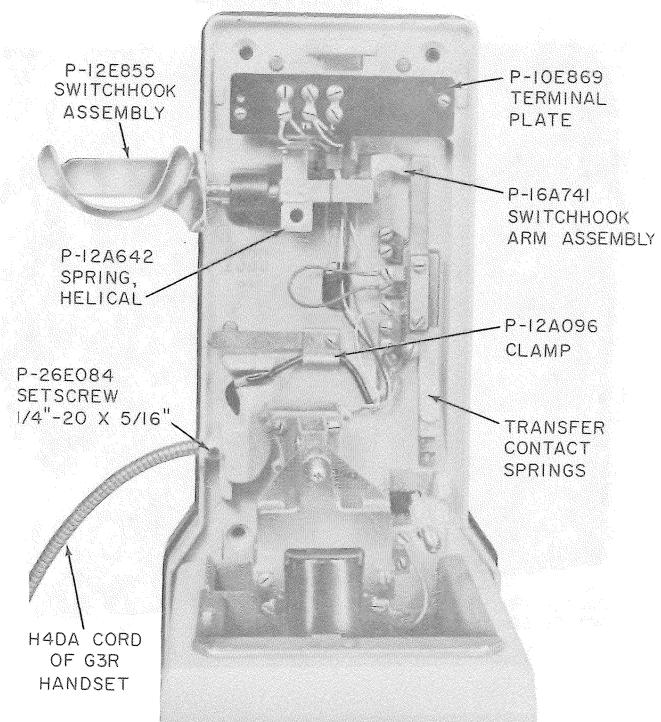

Fig. 4—Typical Backplate Assembly
1.03 The coin collector consists of a cast iron or aluminum backplate assembly (Fig. 4), a steel upper housing Fig. 5, and a steel lower housing (Fig. 6). Component parts are assembled on the backplate assembly and lower housing and either in or on the upper housing. Circuit connections between removable upper housing and backplate assembly are made with spur-type contacts on upper housing and contact springs on backplate assembly.
- 2.29** Parts mounted on the backplate are illustrated in Fig. 4.